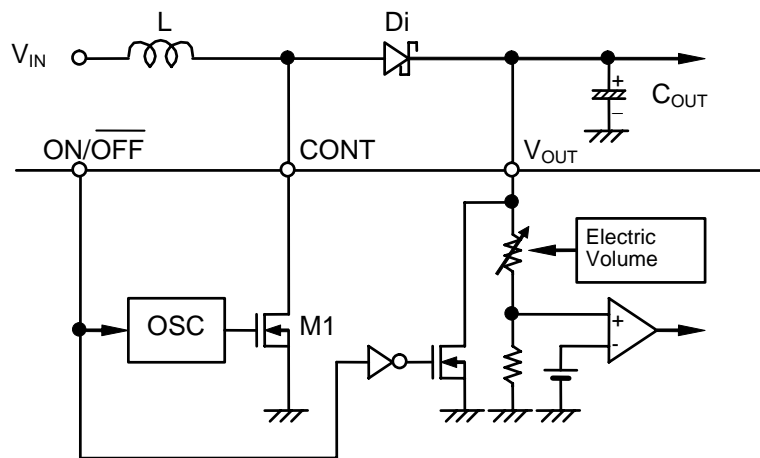

Figure 6 Step-Up DC-DC Converter
The following are fundamental equations of step-up switching regulators [(1) to (7)] (see Figure 6).